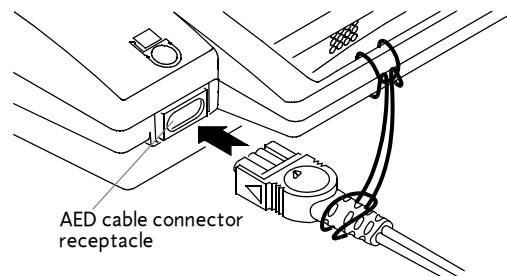

Figure C-3 Inserting defibrillation cable into AED
- 3 Insert the cable firmly into the AED until a positive stop is felt (see Figure C-3).